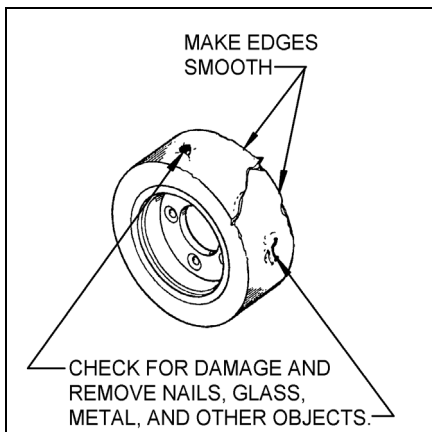

Figure 5-1: Tire wear and Damage
1. Inspect the tire for chunking or embedded objects. **See Figure 5-1.** This is caused by running over objects on a littered floor, overloading or bad driving habits - sharp, rapid turns at high speeds or rapid starts and stops.